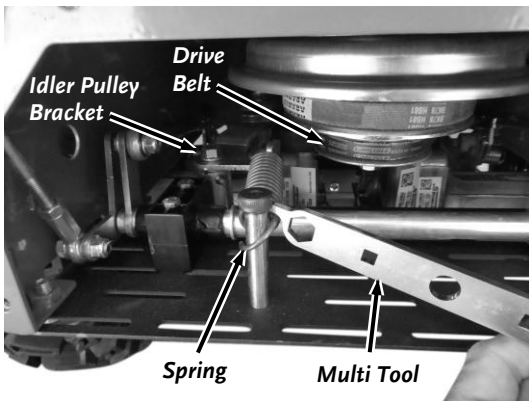

Figure 40
3. Use the Multi Tool to pull the Tensioner Spring off the Shoulder Bolt (**Figure 40**).